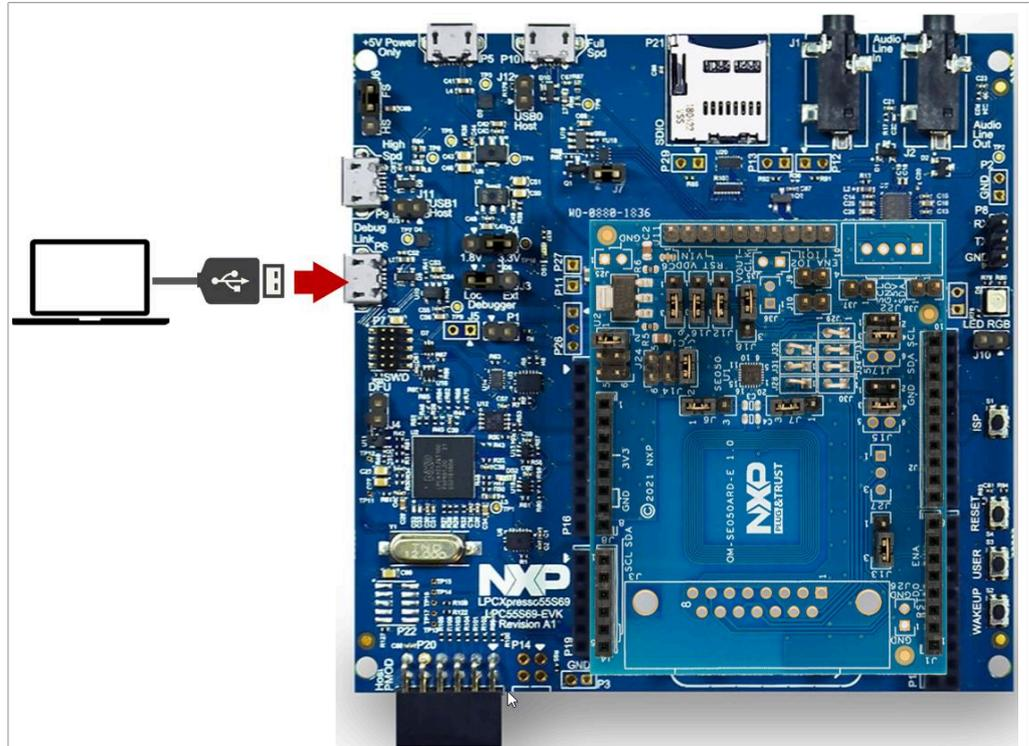

Figure 11. Connect boards to the laptop
1. Attach a USB cable from the computer to the Debug Link USB connector as shown in Figure 11.